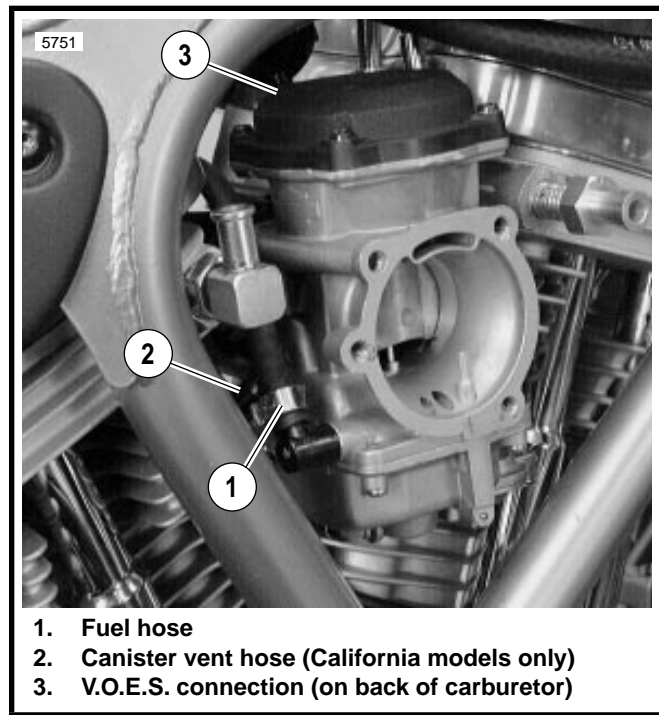

Figure 4-12. Carburetor Hoses
4. See Figure 4-12. Disconnect fuel hose from carburetor. Discard fuel hose clamp.
2. See Figure 4-12. Connect fuel drain hose to drain fitting. Connect vacuum hose to V.O.E.S. fitting. On California models, connect canister hose to carburetor.